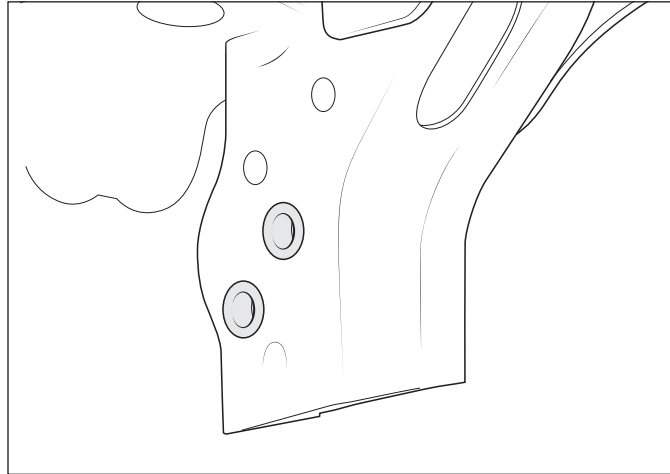

Figure 27
2. If you installed the AEV winch mount, skip to step 4. Install M10 rivnuts using provided tool into the two hex shaped holes on the inboard side of each compatibility beam (fig. 27). To use rivnut tool, run provided bolt through the washer and coupler, then thread on rivnut until snug. Flanged end of rivnut should sit against the coupler. Place rivnut into desired hole, hold coupler stationary with a wrench, and tighten the bolt to 31 ft-lb. Remove the bolt and coupler to make sure the rivnut has full compressed. NOTE: Depending on factory bumper configuration, some vehicles may already have rivnuts in these locations.